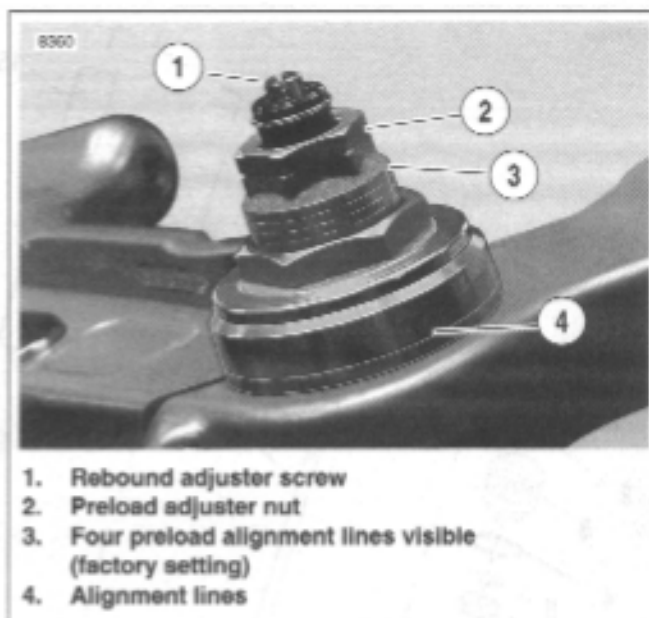

Figure 2-66. Front Fork Preload And Rebound Adjuster
4. See Figure 2-66. Position fork with alignment lines (4) visible and reflector facing to the side and tighten the lower fork clamp. Do not tighten.
9. See Figure 2-66. Position both forks with same number alignment lines (4) visible and reflectors facing to the sides. Do not tighten.